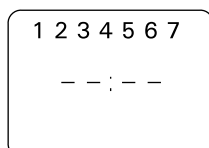

Figure 7.
- press the [Ch] -program button once; the screen will appear as in the diagram. (Fig. 7)